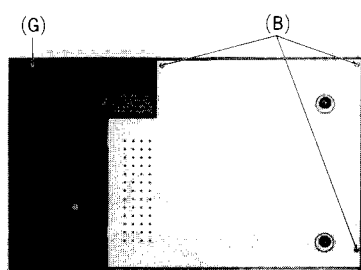

Fig. 2
A Head position adjustment Condition: * Playback and pause mode	(The head adjusting plate is provided to adjust the tape touch of the head in cue or review mode.) 1. Press the playback button and pause button. 2. Measure the space between the pinch roller and the capstan. Standard value: $0.5 \pm 0.3\text{mm}$ 3. If the measured value is not within the standard value, untighten screw (A), and slide the head adjusting plate in the direction of arrow (B) for adjustment (Fig. 2).  Fig. 2